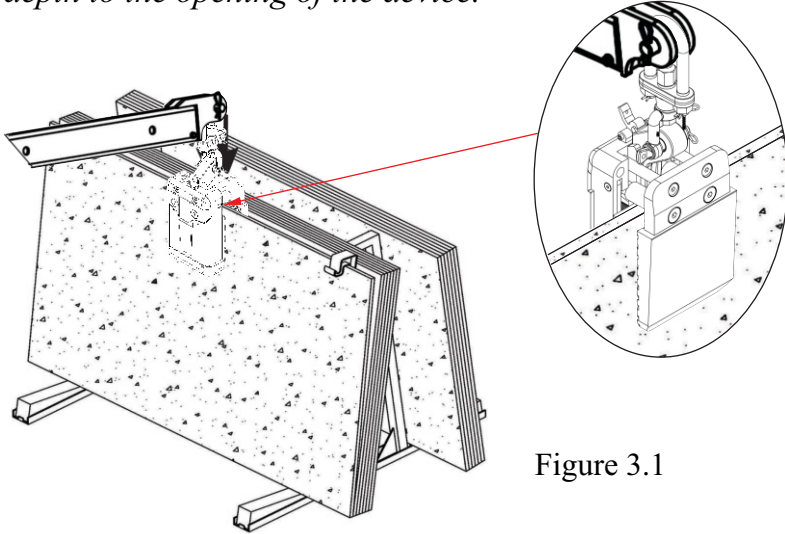

Figure 3.1
- Lowering the device to be perpendicular to the material and place at the center of the material (Figure 3.1)